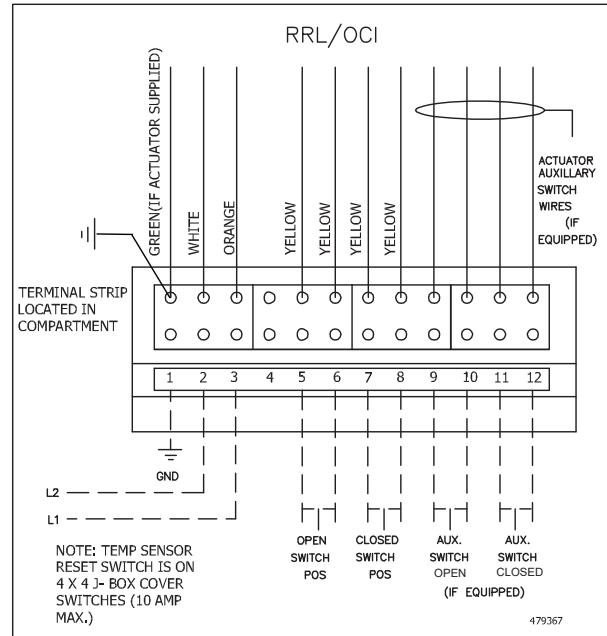

Figure 20: RRL/OCI wiring diagram
**RRL/OCI** - The RRL/OCI contains a RRL (see above) and two single pole single throw switches used to indicate the damper blade position. The switches provide a positive open and closed signal and can be used in conjunction with remote indicator lights. Refer to **Figure 20** for wiring of the RRL/OCI option.